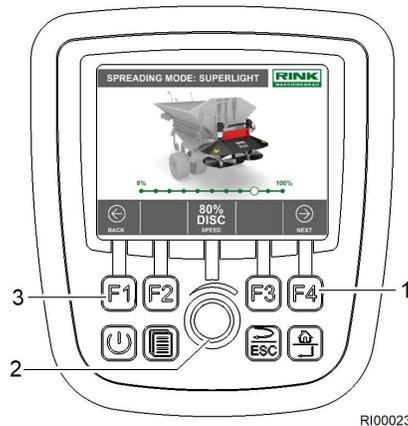

Fig. 40 Set disc speed
1. Turn the rotary control (Fig. 40/2) and set the desired disc speed.
3. Press the F4 button (Fig. 40/1). The next menu is called up.
4. Press the F1 button (Fig. 40/3). The previous control menu is called up.